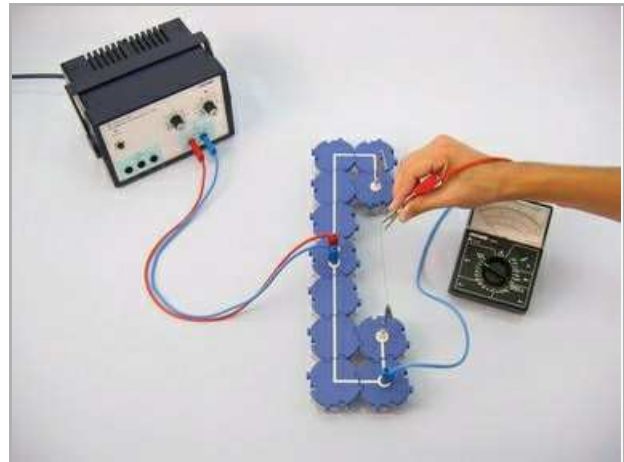

Fig. 6
- Move the crocodile clip successively to connect the voltmeter to different positions on the wire (e.g. about $\frac{3}{4}$, $\frac{1}{2}$, $\frac{1}{4}$ along the length of the wire), as shown in Fig. 6. At each position measure the length of wire held and the voltage across this length of wire. Note the measured values for l and U in table 1.